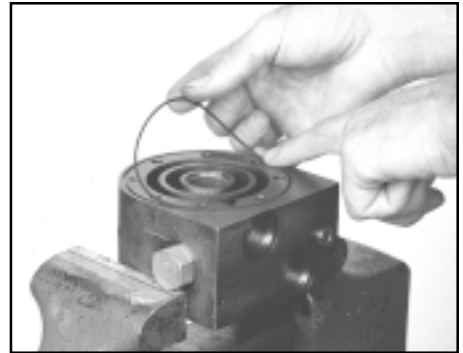

Figure A02
5. Place the o-ring (3) in center block seal gland. SEE FIGURE A02.